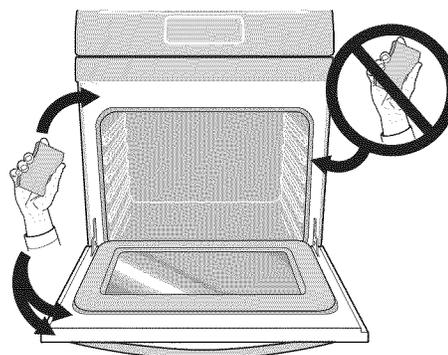

Figure 33: Oven door area to clean and not clean (gasket).
- Clean any soil from the oven frame, the door liner outside the oven door gasket and the small area at the front center of the oven bottom (Figure 33). These areas heat sufficiently to burn soil on. Clean using soap and water prior to starting Self Clean.
- Do not clean the oven door gasket (Figure 33). The woven material of the oven door gasket is essential for a good seal. Care should be taken not to rub, damage or remove the gasket. Do not use any cleaning materials on the oven door gasket. Doing so could cause damage to the door gasket.